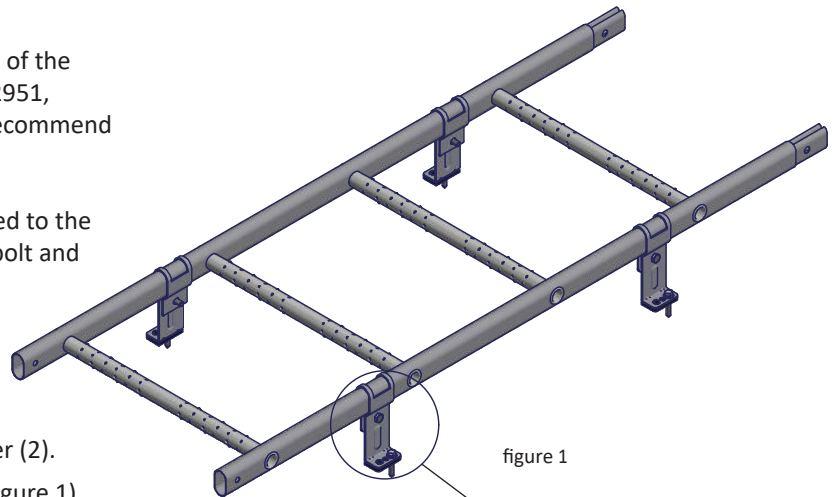

figure 1
- Place the roof ladder rubber seals (3) to roof ladder fastener (2).
- Remove the upper attachment rubber button from seal (figure 1).
- Carefully position the roof ladder fasteners in their places on the battens, and tighten them on the ladder frame (4). Attach roof ladder fasteners to the ladder frame with M8x25 or M8x30 hexagon bolt (5).